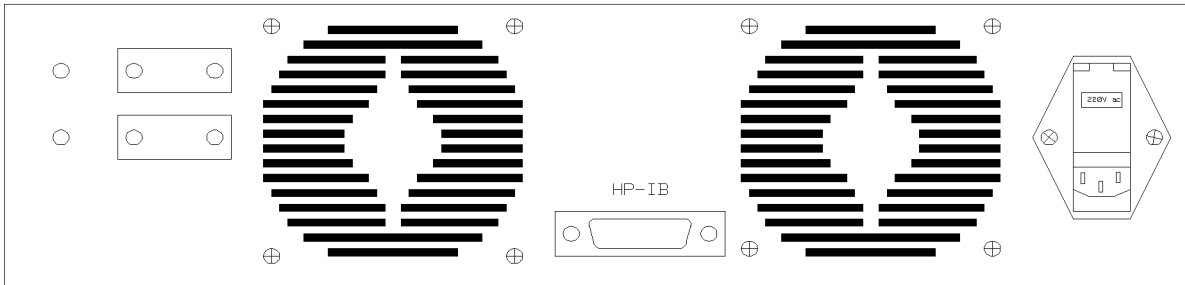

Figure 5-16. High Speed Width Generator
10. Secure the HP662xx in position with the coverplate screws. Figure 5-16 shows the routing of DPS cables within the Standardframe.